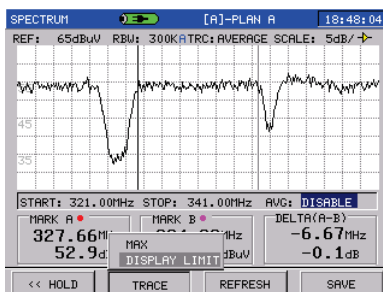
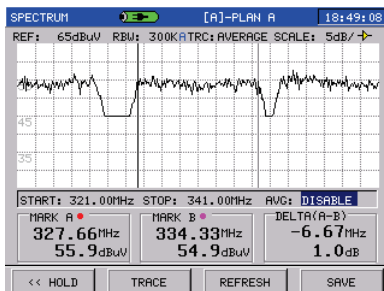

Figure 3-3-9
Figure 3-3-11
**TRACE(F2):** Pressing TRACE key, you can select **MAX** or **DISPLAY LIMIT**, as Figure 3-3-9.
At Figure 3-3-9, Choose **DISPLAY LIMIT** to set up the display limit. After setup, all values less than this limit will display as the limit value. Please refer to Figure3-3-11, the limit is set to 30dBuV.